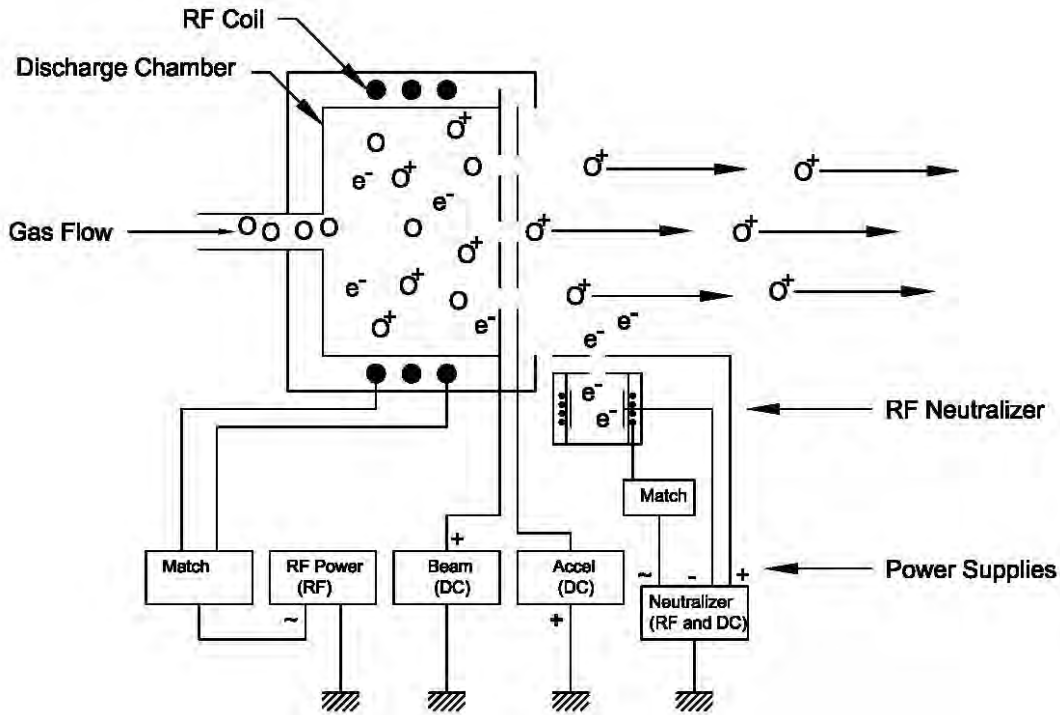

Figure 2.4: Electrical schematic for a RF source
In Figure 2.4, the electrical connections for a RF source with RF neutralizer are presented. The RF coil for the discharge chamber is energized by the RF supply and is tuned by using a matching network. The beam supply, a DC bias supply, is connected to the screen (S) grid in order to bias the